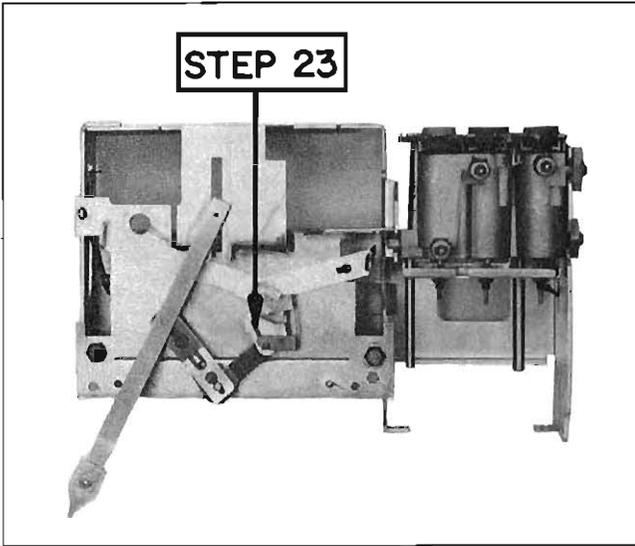

Figure 35 - DIAL POINTER ADJUSTMENT
18. Adjust pointer calibration link so the pointer reads 900 KC on the dial. See Figure 35.